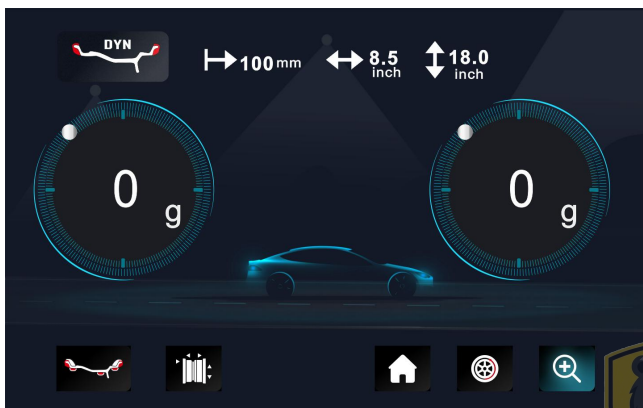

Fig. 5
4.1.8. After finishing clipping the counterweights, put down the guard and press  , to perform balancing spin again, if comes out 00 00, means balancing succeed. (Fig.5)